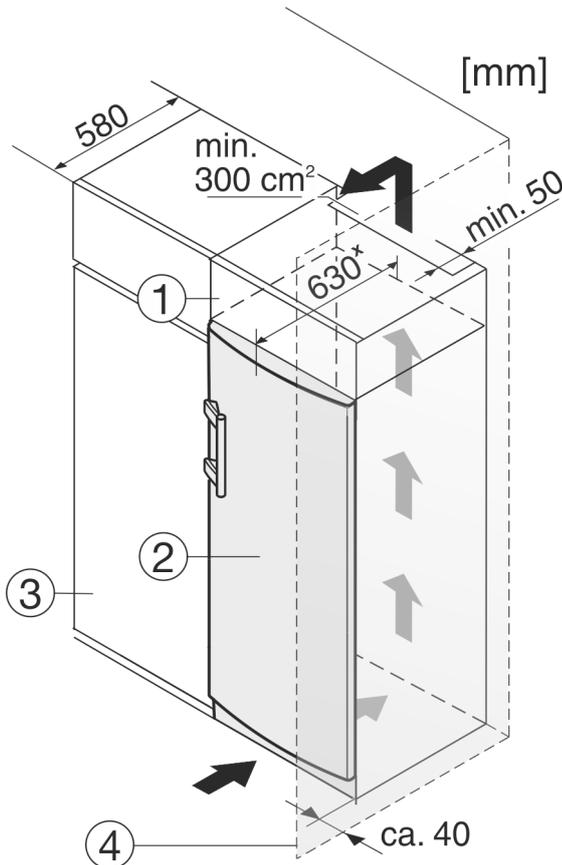

Fig. 9
The appliance can be inserted into a row of kitchen units. To match the appliance Fig. 9 (2) to the height of the row of units, a suitable stack cabinet Fig. 9 (1) can be fitted above the appliance.
When installing with kitchen units (max. depth 580 mm), the appliance can be positioned directly next to the kitchen cabinet Fig. 9 (3). The appliance will project by 34 mm\* at the sides and 50 mm\* in the centre of the appliance in relation to the kitchen cabinet front.
If the appliance is installed with the hinges next to a wall Fig. 9 (4), the distance between appliance and wall has to be at least 40 mm. This corresponds to the projection of the handle when the door is open.